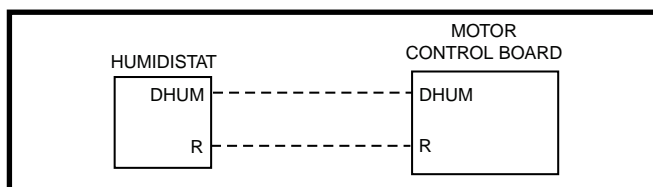

Figure 5. DHUM Wiring Configuration
1. If the room thermostat incorporates a humidity sensor and **DHUM** output, connect the **DHUM** on the thermostat to the **DHUM** terminal on the motor control board. See Figure 5.